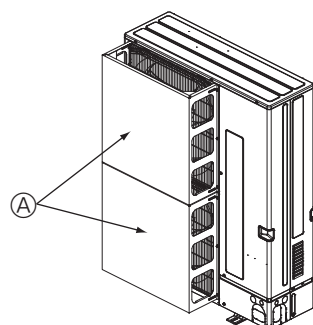

Fig. 2-3
- ② Install an optional wind baffle if the unit is installed in a location where strong winds from a typhoon, etc. may directly enter the air outlet. (Fig. 2-3)